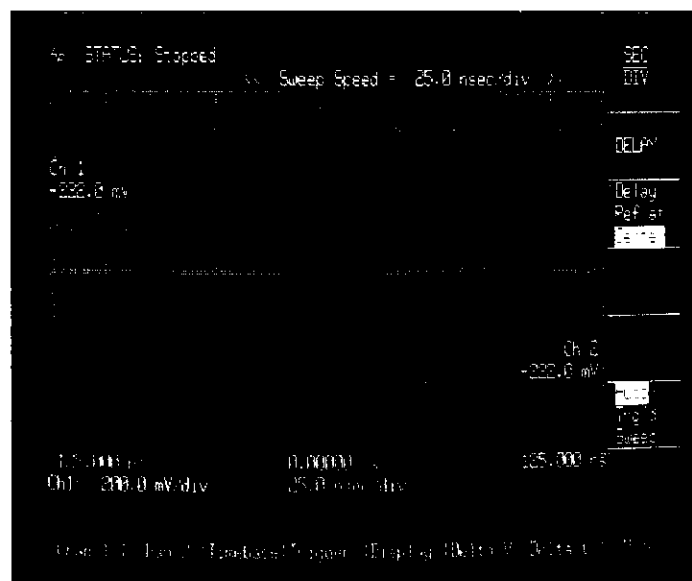

Figure 7-35. Effects of Ch to Ch SKEW on Waveform Math.
12. Press the STOP/SINGLE key to initiate a single acquisition. See Figure 7-35